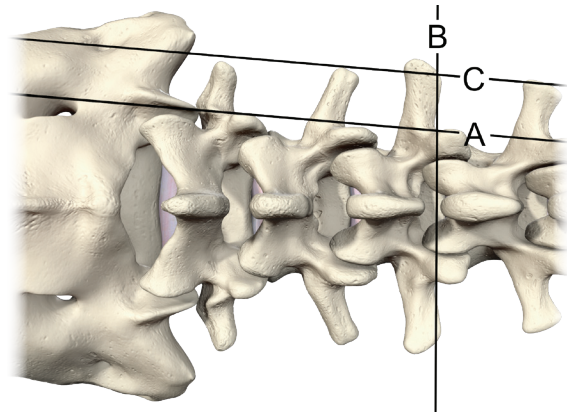

Figure 6
- Due to the depth of soft tissue and muscle, draw a second vertical line 2 cm–3 cm lateral to line "A." This is line "C," and delineates the incision site (Figure 6).